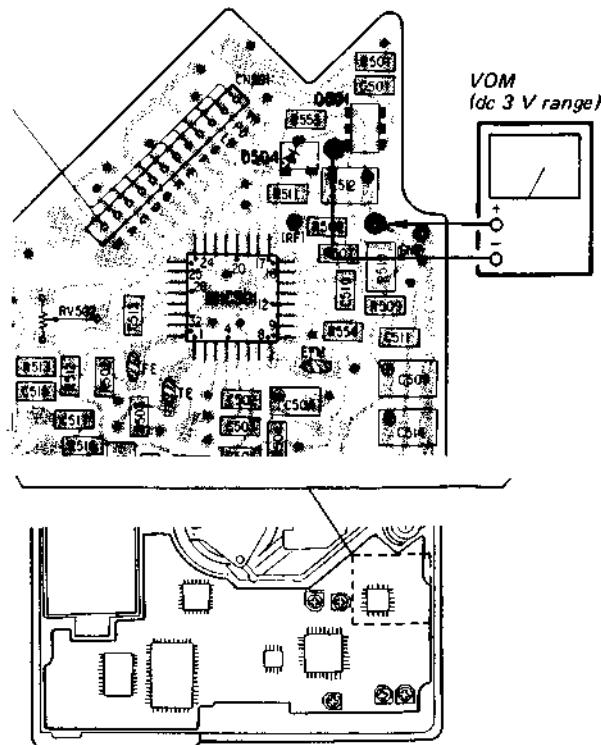

Fig. 2 VOM Connection
3. Connect a VOM as shown in Fig. 2.